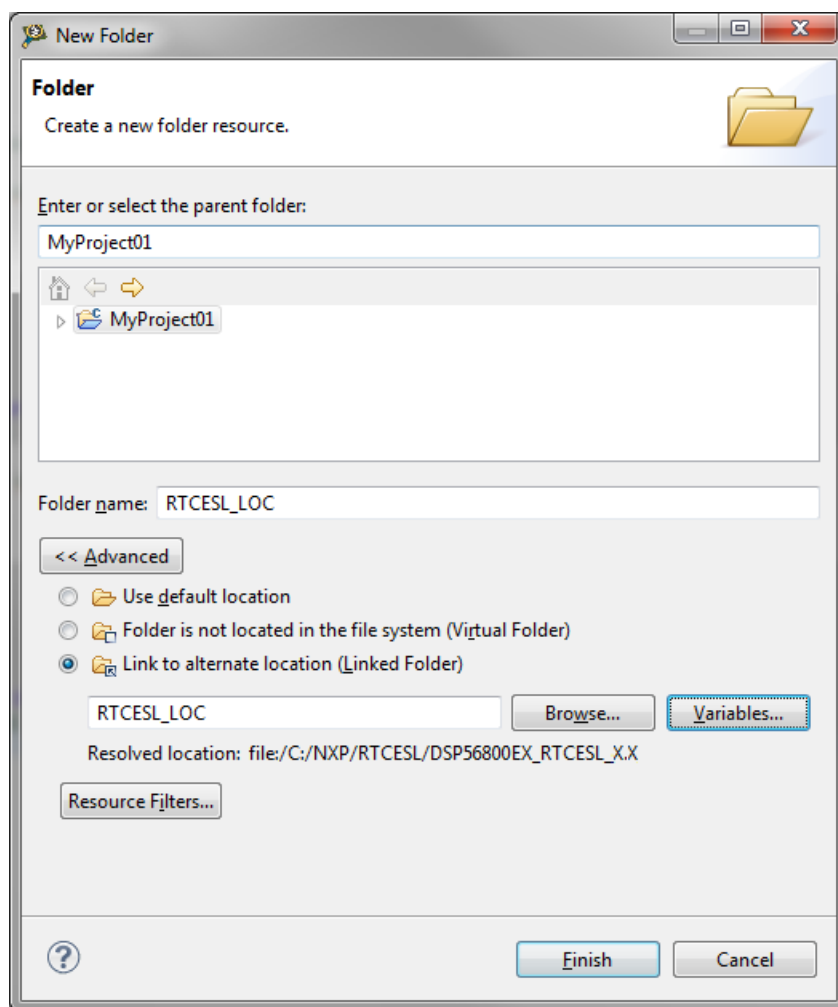

Figure 1-8. Folder link
4. Click Variables..., and select the RTCESL_LOC variable in the dialog that appears, click OK, and/or type the variable name into the box. See Figure 1-8.